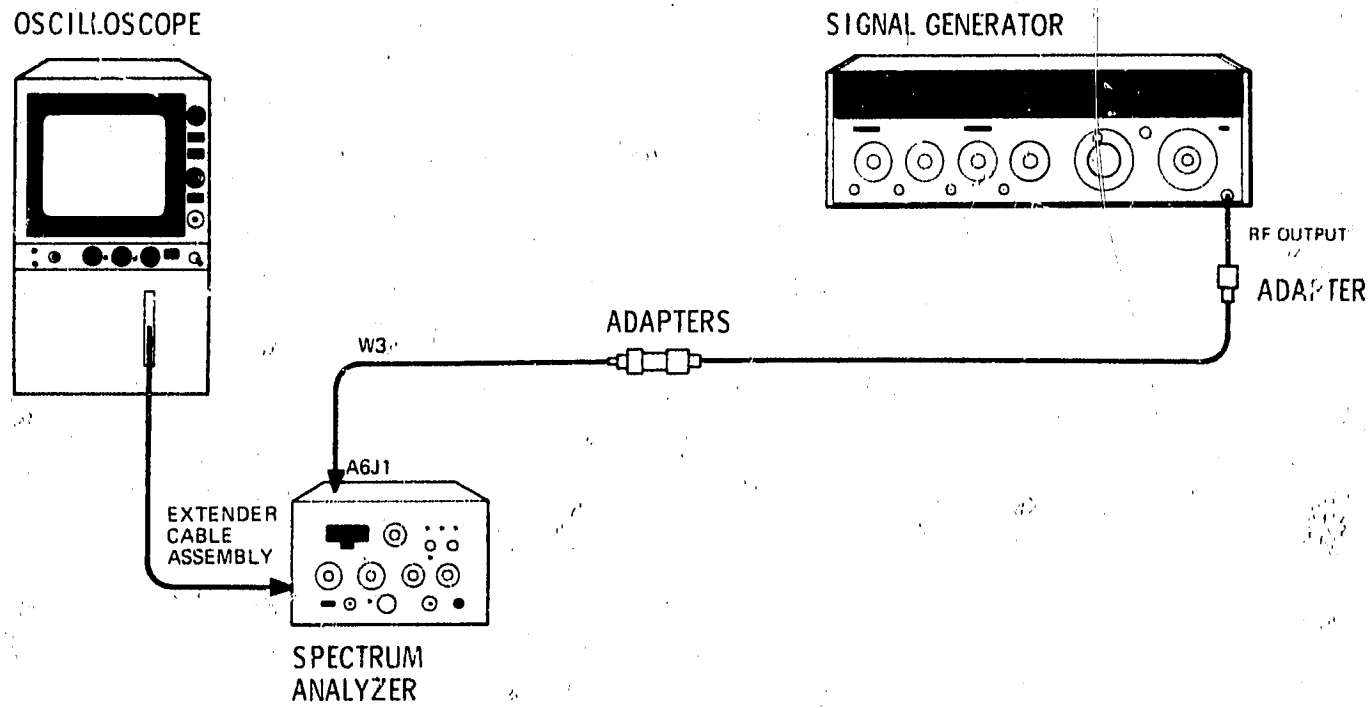

Figure 4-10. Resolution Bandwidth Accuracy Test Setup 1 kHz to 30 kHz
13. Connect equipment as shown in Figure 4-10. Remove W3P1 from A5J2. Connect signal generator through adapter to W3P1 (21.4 MHz Preamp input).